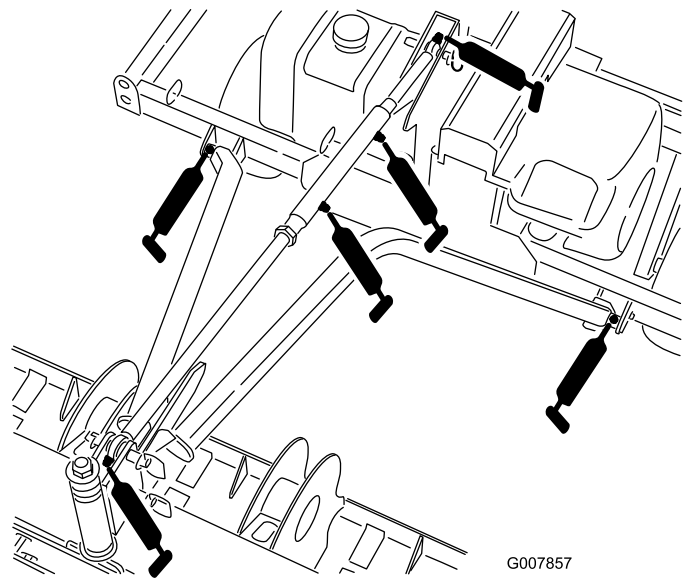

Figure 40
- Tow frame, Qty. 2 (Figure 40)